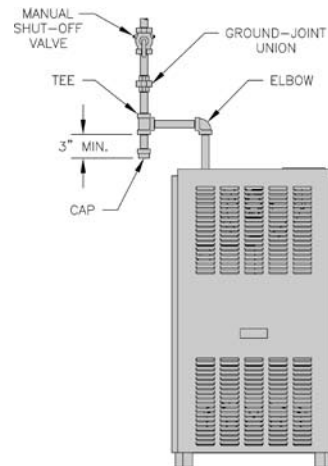

Figure 13: Recommended Gas Piping
3. Install sediment trap, ground-joint union and manual shut-off valve upstream of boiler gas control valve and outside jacket. See Figure 13.